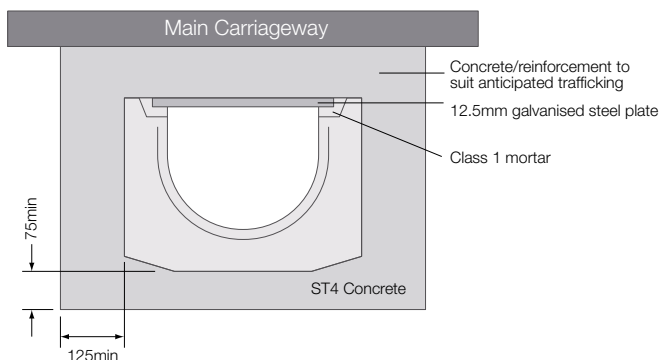
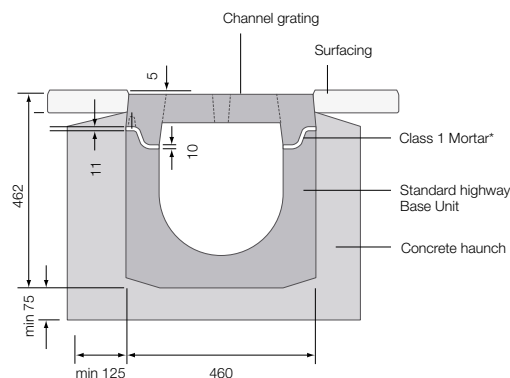

Fig 1. Highway crossing – base unit
Fig 6. Channel grating/concrete drainage top
- ▶ Use crossing base units to carry drainage runs under side roads/ vehicular crossing points (see Fig 1) Grid units available (see Fig 6)